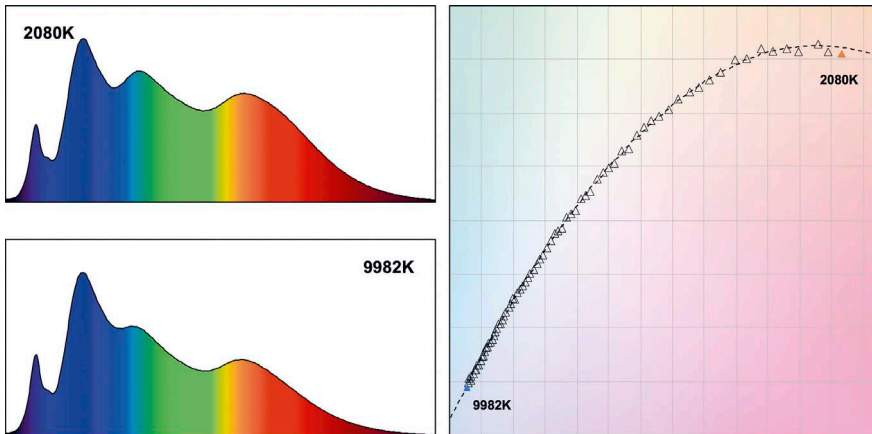

Figure 7: Spectral power distributions and chromaticity coordinate locus from 2000K to 10000K, interval 100K
**Figure 7** indicates the gathering of spectral power distributions and the chromaticity coordinate locus along with the Planckian